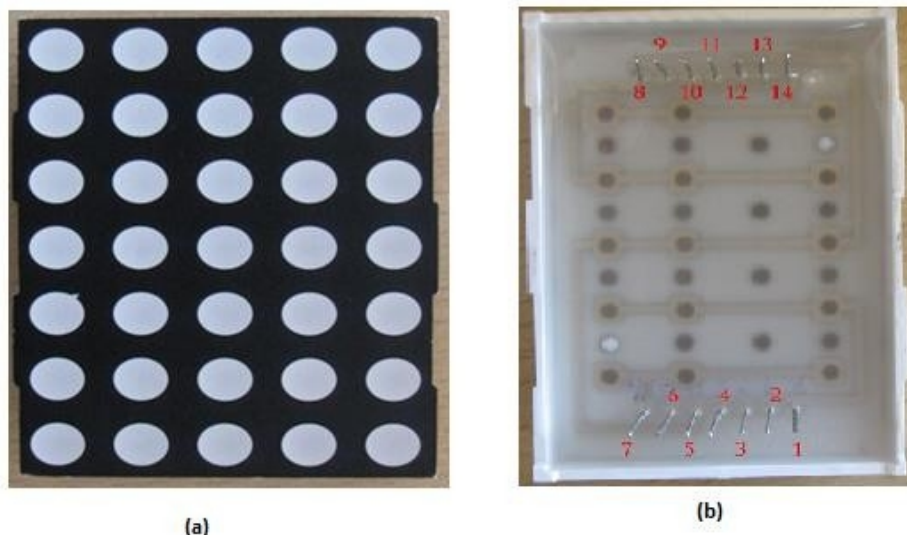

Figure-32 5x7 LED Dot-matrix display (a) Front view; (b) Rear view
- Figure-32 shows a 5x7 LED Dot-matrix display with front and rear views. A total of 35 LEDs are visible as dots on the front of the dot matrix display. The LEDs are illuminated when their respective terminals are powered.